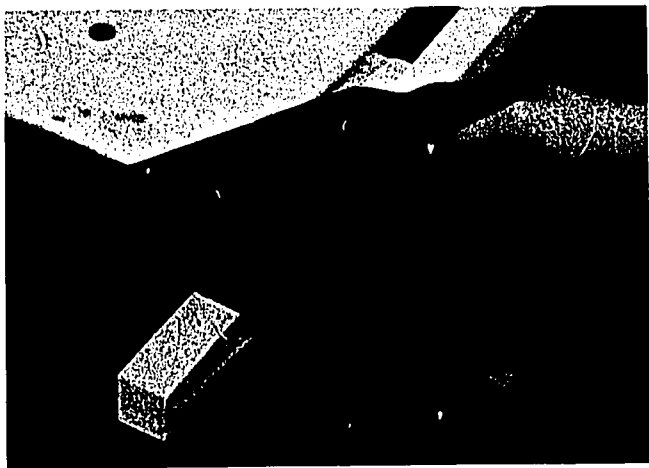

Fig. 18A-1. Secure Wood in a Bench Vise and Cut with a Crosscut Saw
2. Place the wood in a bench vise. See Fig. 18A-1.